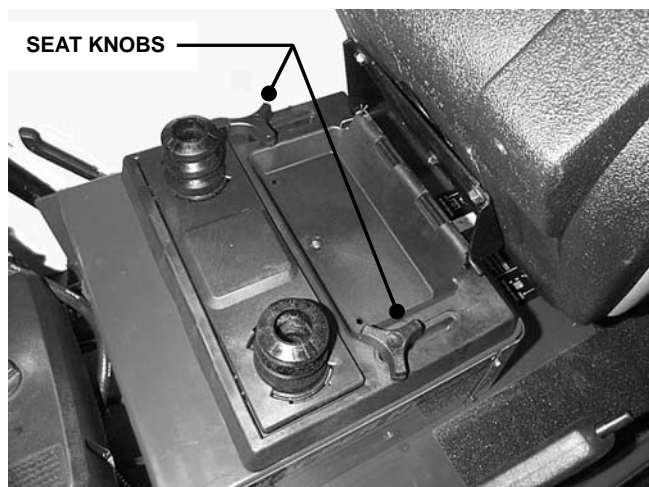

FIGURE 4.13
1. The battery is located under seat. Remove seat knobs and carefully tilt forward to expose battery. See Figure 4.13.